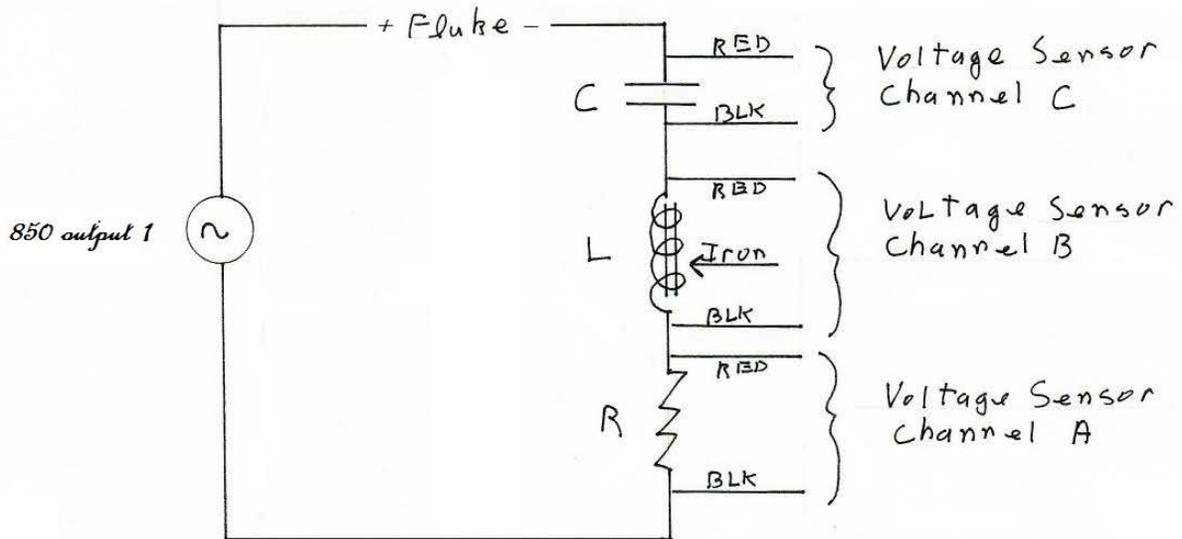

Fig. 3
- Set up the circuit, using the voltage sensors, as shown in Fig. 3.